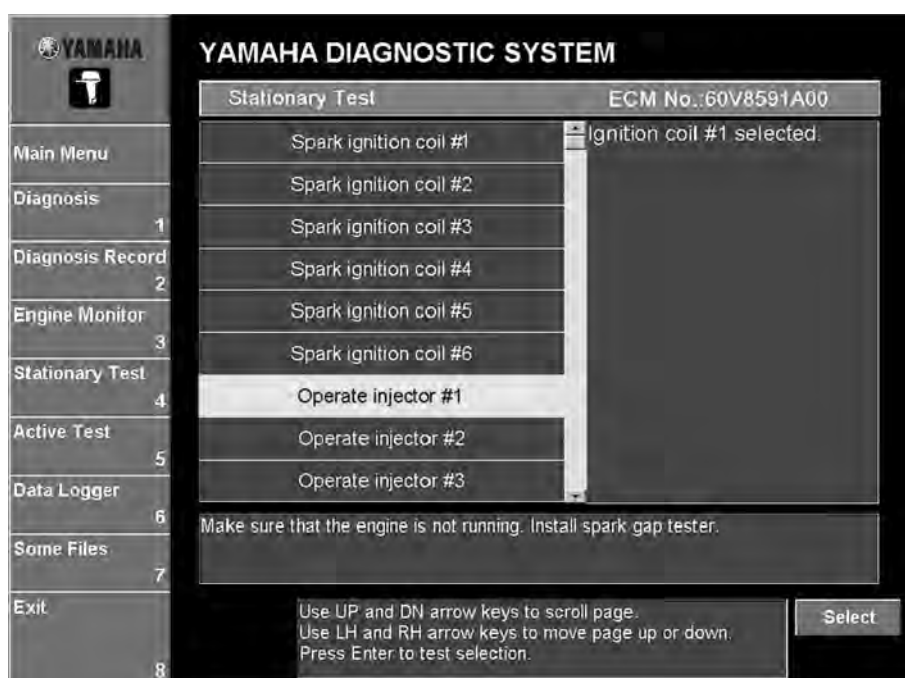

Fig. 72
1. Select the test that you wish to perform by either clicking it or pressing the up or down arrow keys on your keyboard. (Fig. 72)
2. Select the cylinder to be tested, and then click the **Select** button or press the Enter key on your keyboard. (Fig. 72)